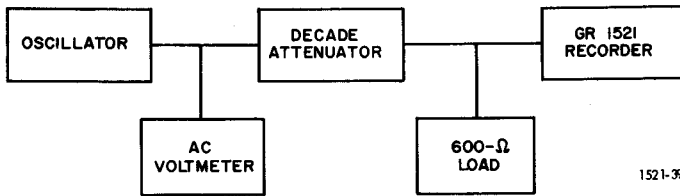

Figure 6.2 Test circuit for checking ac potentiometers used in the 1521.
- Set up the test circuit shown in Figure 6.2. The 600- Ω load resistor is connected across the output terminals of the decade attenuator and the voltmeter (via its probe) is connected to monitor the output of the oscillator. Two patch cords, GR 274-NP, can be
a. Set up the test circuit shown in Figure 6.2.